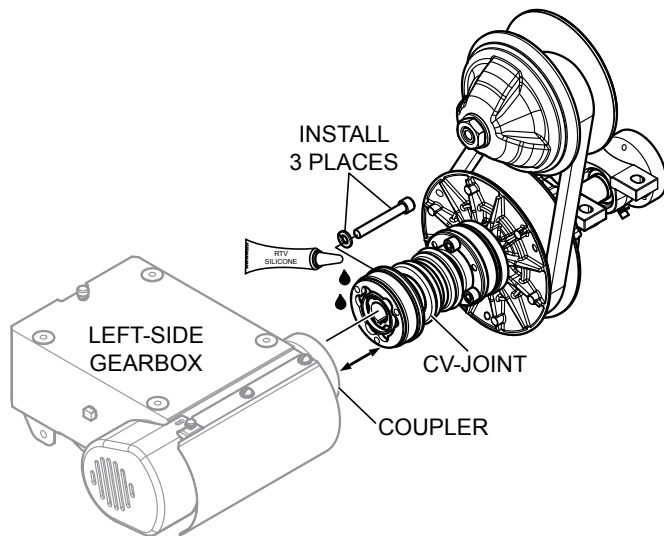

Figure 35. CV-Joint Installation
1. Apply a thin coat of RVT silicone to mating surfaces of the CV-joint (Figure 35) and left-side gearbox coupler.
2. Using a 1/4" allen wrench install the 3 bolts and lock washers that secure the CV-joint (Figure 35) to the left-side gearbox.